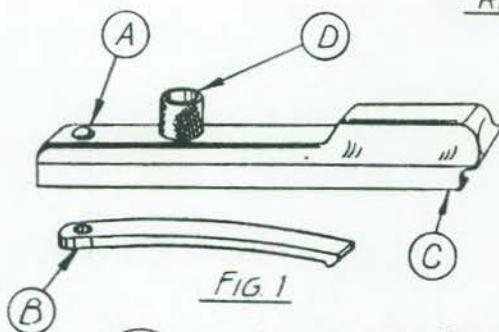

FIG. 1
- 39 IF COVER LATCH SPRING (B), FIGURE 1, HAS LOST ITS TENSION OR IS BROKEN, REMOVE RIVET (A). HANDLE (D) IS ALSO RIVETED ON FROM UNDERSIDE AND MAY BE REPLACED IF NECESSARY.